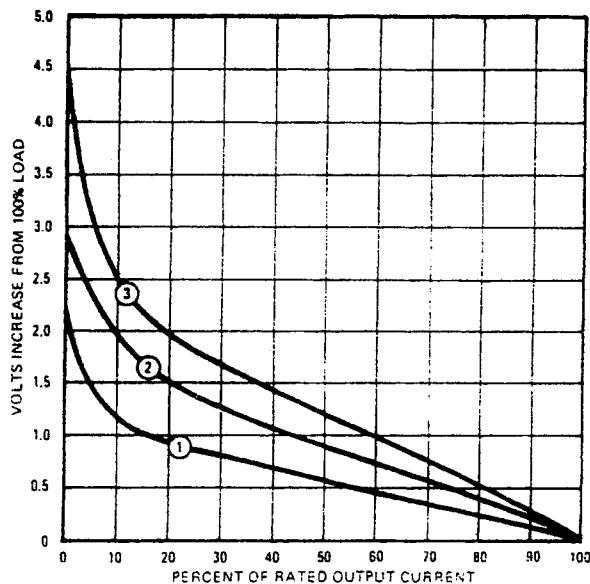

FIG. 2 TYPICAL LOAD EFFECT CURVES FOR PRR MODELS
LOAD EFFECT: See Table 1 and applicable load effect curve in FIG. 2.
OUTPUT VOLTAGE ACCURACY: Within $\pm 2\%$, or 0.25V, whichever is greater, of the specified output voltage, at nominal source voltage, 30°C ambient temperature, at maximum load and following a 30-minute warm-up period. Allow for an initial (cold) voltage approximately 1% higher than the specified output voltage accuracy. The output voltage increase at output current levels less than the maximum rated may be read from the load effect curves (FIG. 2) and must be added to the nominal output level.
- B) OUTPUT IMPEDANCE: The impedance at d-c and at frequencies below 10 KHz is a function of the load effect curves shown in FIG. 2. It may be determined from the slope of the plotted curves ($Z_o = \Delta E_o / \Delta I_o$). The output impedance at frequencies above 10 KHz can be computed by adding the effect of a 2 μ H series inductance to the low frequency value found in FIG. 2.